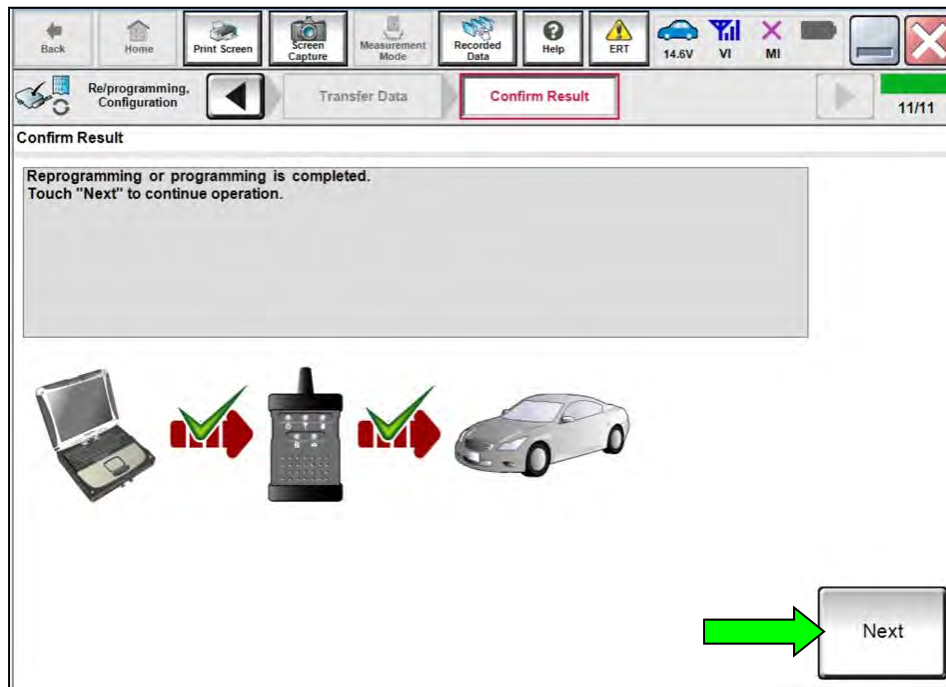

Figure 27
46. When the screen in Figure 27 displays, select **Next** (reprogramming is complete).
- If the screen in Figure 27 does not display (which indicates reprogramming did not complete), skip to **Control Unit Recovery** on page 25.